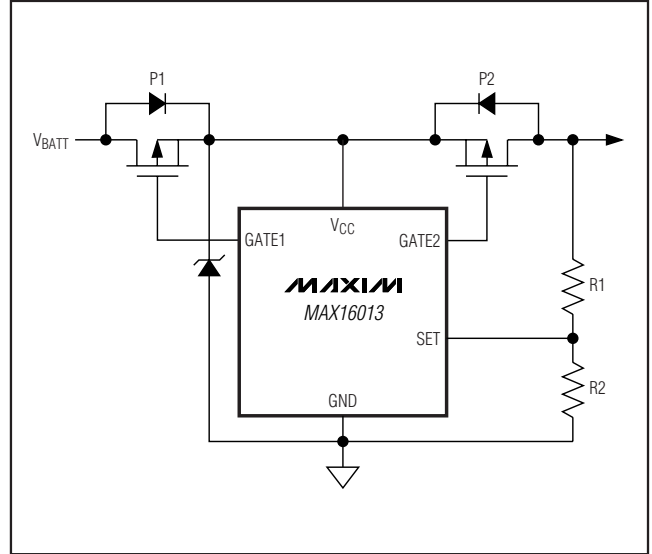

Figure 3. Overvoltage Limiter Protection
The MAX16013/MAX16014 can be configured as an overvoltage switch controller to turn on/off a load (see the *Typical Application Circuit*). When the programmed overvoltage threshold is tripped, the internal fast comparator turns off the external p-channel MOSFET (P2), pulling GATE2 to VCC to disconnect the power source from the load. When the monitored voltage goes below the adjusted overvoltage threshold, the MAX16013 enhances GATE2, reconnecting the load to the power source (toggle ENABLE on the MAX16014 to reconnect the load). The MAX16013 can be configured as an overvoltage limiter switch by connecting the resistive divider to the load instead of VCC (Figure 3). See the *Overvoltage Limiter* section.
- Add a zener diode or transient voltage suppressor (TVS) rated below  $V_{CC}$  absolute maximum rating (Figure 3).
Most battery-powered applications must include reverse voltage protection. Many times this is implemented with a diode in series with the battery. The disadvantage in using a diode is the forward voltage drop of the diode, which reduces the operating voltage available to downstream circuits ( $V_{LOAD} = V_{BATTERY} - V_{DIODE}$ ). The MAX16013 and MAX16014 include high-voltage GATE1 drive circuitry allowing users to replace the high-voltage-drop series diode with a low-voltage-drop MOSFET device (as shown in the *Typical Operating Circuit* and Figure 3). The forward voltage drop is reduced to  $I_{LOAD} \times R_{DS-ON}$  of P1. With a suitably chosen MOSFET, the voltage drop can be reduced to millivolts.